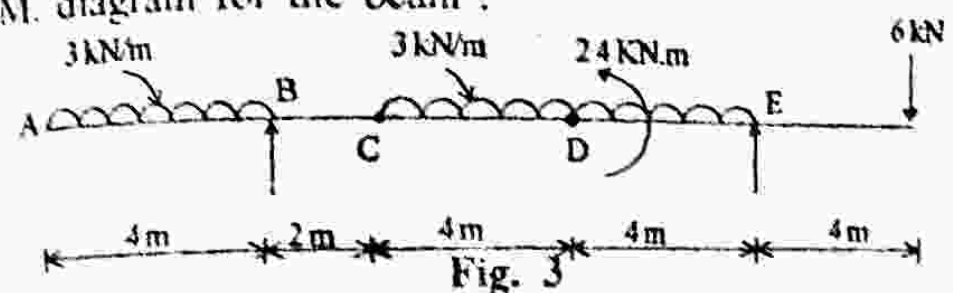

Fig. 3
4. The overhang beam is loaded as shown in fig. 3. Draw S.F. and B.M. diagram for the beam : (13)